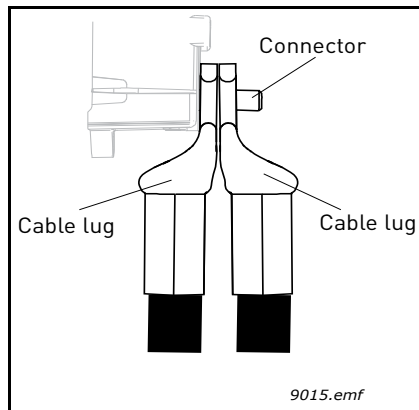

Figure 43. Placing two cable lugs on top of each other
- **NOTE!** If you use several cables on one connector observe the position of cable lugs on top of each other. See Figure 43 below.